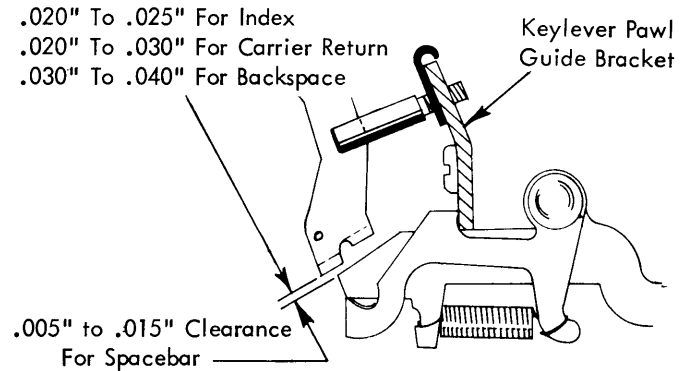

FIGURE 105. Keylever Pawl To Interposer Clearance Adjustment
- a. Adjust the height of the interposers by positioning the keylever pawl guide bracket up or down to obtain a clearance of .020" to .025" between the index keylever pawl and the index interposer at rest (Fig. 105). The keylever pawl guide bracket should be kept horizontal.
- b. The adjusting slot in the carrier return keylever should be formed to obtain .020" to .030" clearance between the keylever pawl and the interposer at rest (Fig. 105).
- c. The adjusting slot in the backspace keylever should be formed to obtain .030" to .040" clearance between the keylever pawl and the interposer at rest (Fig. 105).
- d. Adjust the spacebar lever eccentric with the high part forward to obtain a keylever pawl to interposer clearance of .005" to .015" (Fig. 105).